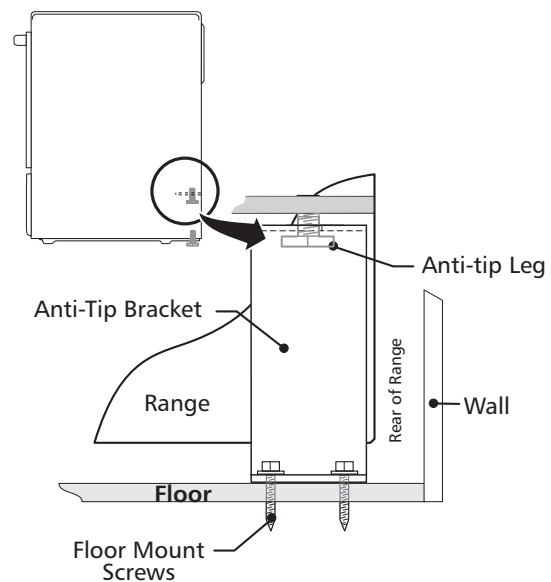

Figure 14
4. Remove template and place bracket on floor. Line up holes in bracket with marks on floor and attach with 4 screws provided. Bracket must be secured to solid floor (figure 14). If attaching to concrete floor, first drill 3/16" dia. pilot holes using a masonry drill bit.